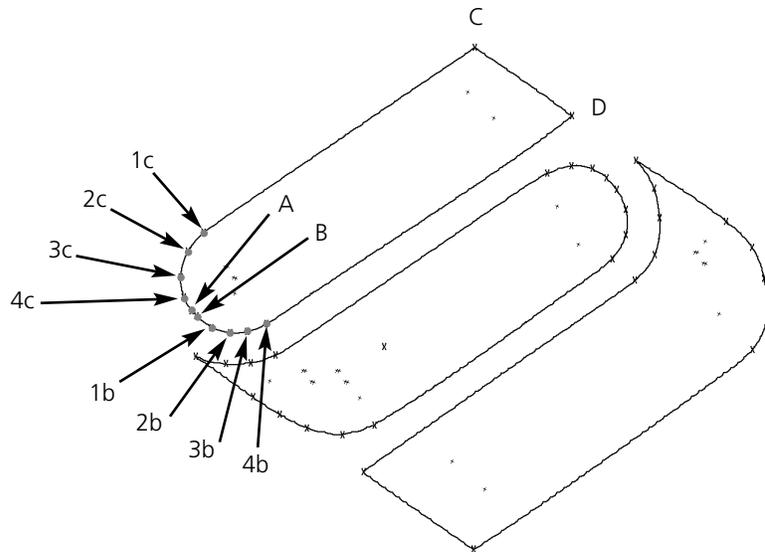

Figure 5-60
Refer to Figure 5-60 to define the sides of the fill. Remember to define the first side beginning with point B.
- To define the curvature of the arc from point B to the area where the line straightens, change the toolbar Mark selection to Mk1 and enter Mk1s repeatedly around the arc to the straight area (see 1b through 4b in Figure 5-60).
2. Without any further instructions, use the knowledge you have acquired and refer to Figures 5-60 and 5-63 to complete the last fill stitching of the Saurer logo. Refer to the previous sections for help, if needed.